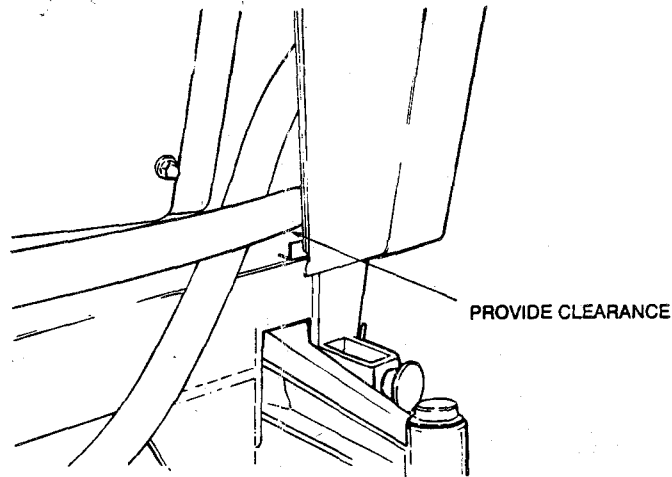

FIGURE 3. HOOD MODIFICATION FOR OIL LINE
3. Modify tractor hood on starter side to allow clearance for and prevent abrasion of the oil cooler line. (Figure 3)